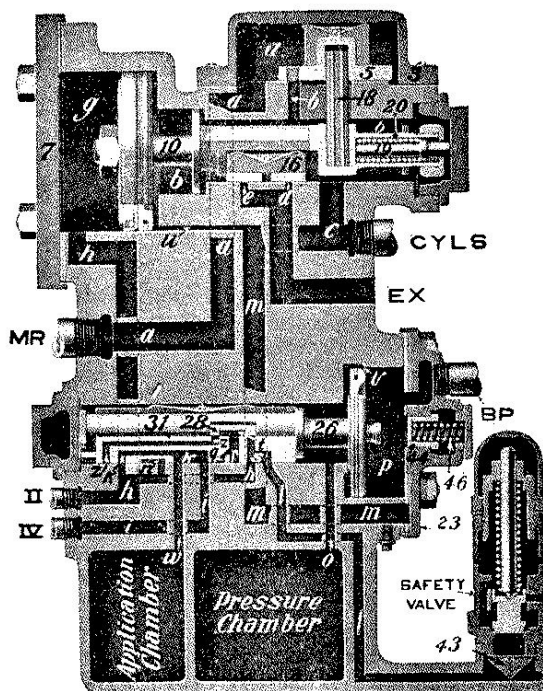

Fig. 12: Independent Application.
A. When the independent brake valve handle is moved to application position, air is admitted from the reducing valve pipe through the application cylinder pipe to the application chamber and cylinder. Pressure forming in the application cylinder will move the application piston 10 to the right, carrying with it the exhaust valve 16 and the application valve 5, closing the exhaust port and opening the supply port, admitting main reservoir air from chamber "a" to the brake cylinders (see Fig. 12) until the pressure in the brake cylinders and chamber "b" slightly exceeds that in chamber "g", when the application piston 10 and valve 5 will move back to lap position. By moving the brake valve handle to either release or running position, the air is exhausted from the application cylinder and chamber, thus reducing the pressure in chamber "g", allowing the pressure in chamber "b" to force the piston to the left, carrying with it the exhaust valve 16, opening the exhaust ports "e" and "d", allowing the air from the brake cylinders to escape to the atmosphere, thus releasing the brake.